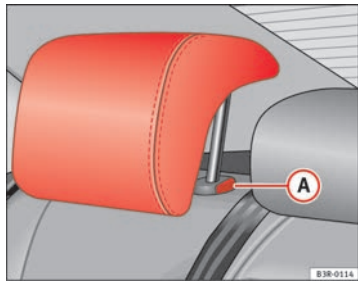

Fig. 113 Outer rear seats:
- Press button **A** ⇒ fig. 113 and lower the head restraint.
- Press button **A** ⇒ fig. 113 and pull out the head restraint.